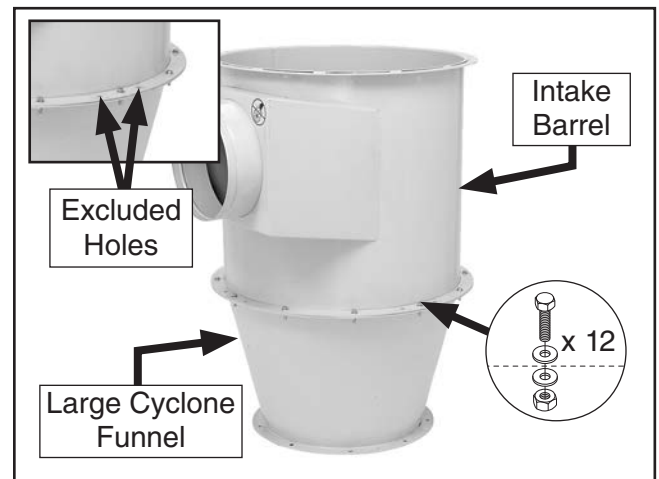

Figure 15. Intake barrel and large cyclone funnel.
- Connect intake barrel and large cyclone funnel with (12) $\frac{5}{16}$ "-18 x $\frac{1}{4}$ " hex bolts, (24) $\frac{5}{16}$ " flat washers, and (12) $\frac{5}{16}$ "-18 hex nuts in mounting holes—excluding left and right holes in groups of three (see **Figure 15**).